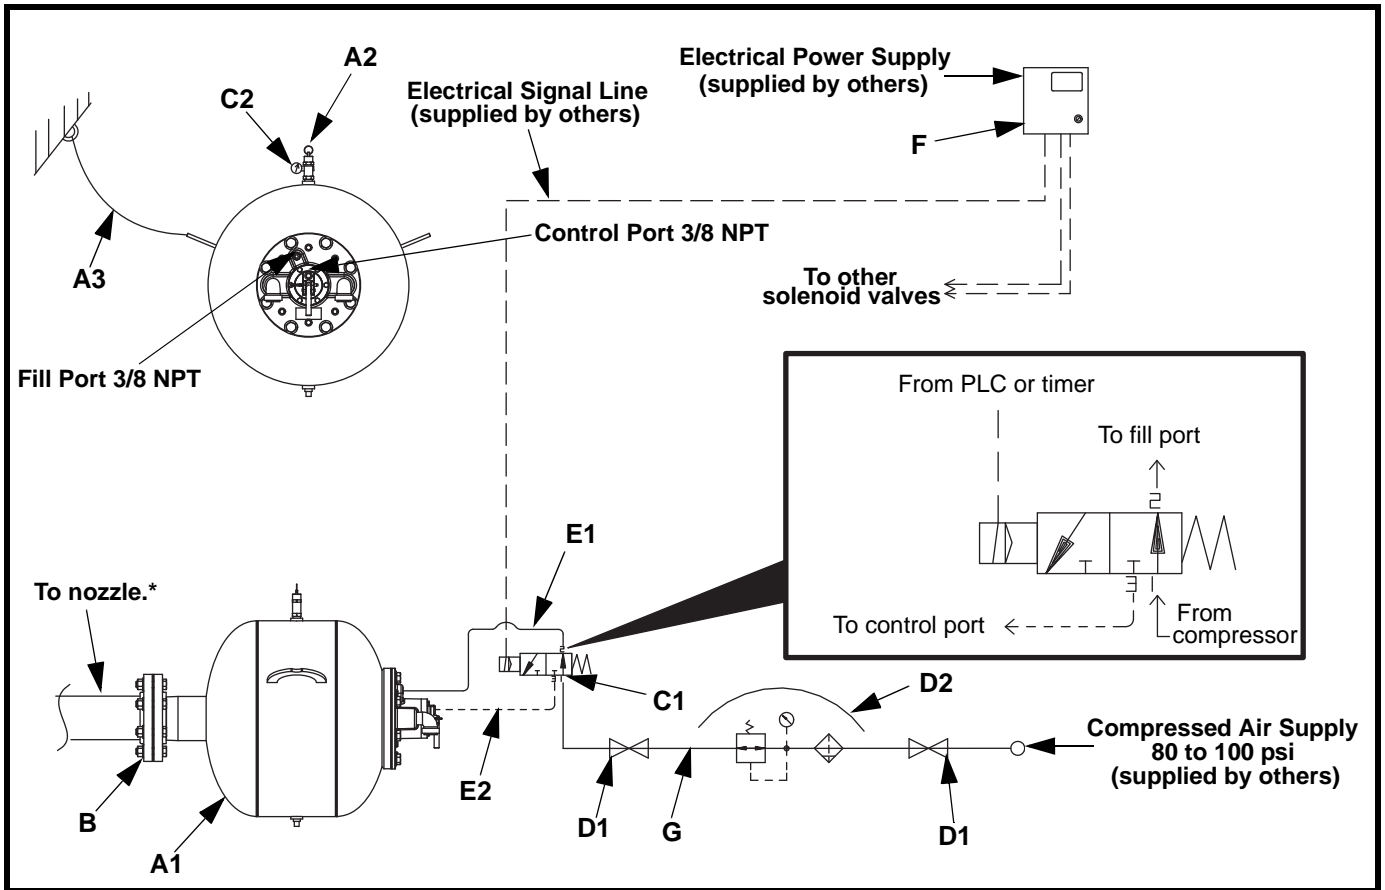

Figure 16. Plumbing Detail for Normally-Opened Solenoid Valve
3. Remove recessed hex-head screw from the valve’s fill port. See Figure 16 or 17.
- a. If using a normally-opened solenoid valve, connect the 3-way electric solenoid valve outlet port (2) to exhaust valve fill port. See Figure 16.
- b. If using a normally-closed solenoid valve, connect the 3-way electric solenoid valve outlet port (2) to exhaust valve control port.